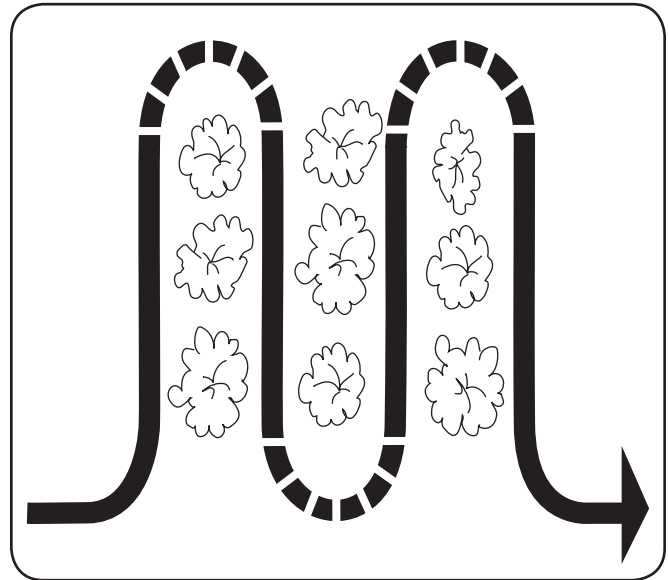

Figure 5-4
- When cultivating (breaking up the surface soil around the plants to destroy weeds, see Fig. 5-4), adjust the tines to dig only 1” to 2” deep. Using the shallow tilling depth helps prevent injury to the plants whose roots often grow close to the surface. If needed, lift up on the handlebars slightly to prevent the tines from digging too deeply. (Cultivating on a regular basis not only eliminates weeds, it also loosens and aerates the soil for better moisture absorption and faster plant growth.) Watering the garden area a few days prior to tilling will make tilling easier, as will letting the newly worked soil set for a day or two before making a final, deep tilling pass.